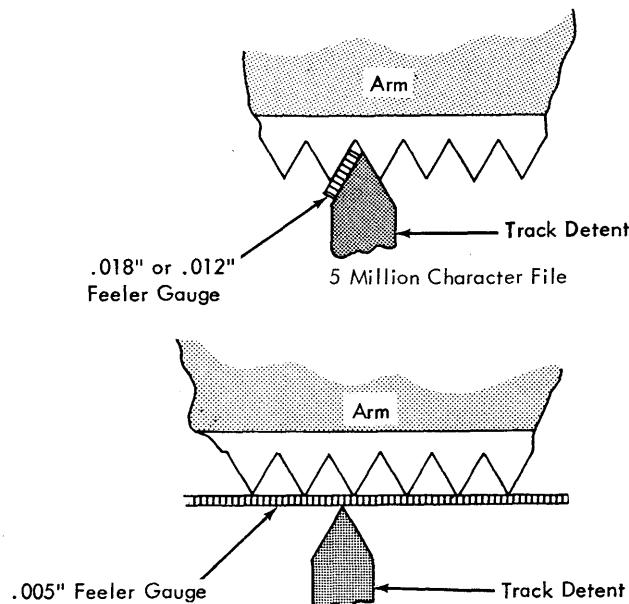

Figure 71. Track Detent Adjustments
### ADJUSTMENT (10 Million Character File) (Figures 71 and 72)
7. Place a .005" feeler gage between the arm teeth and any detent (bottom Figure 71). Apply air. The n/c contact should be open. If it is not open, steps 4 and 5 were not done correctly or the switch is not within specifications. If the latter is the case, replace the switch.